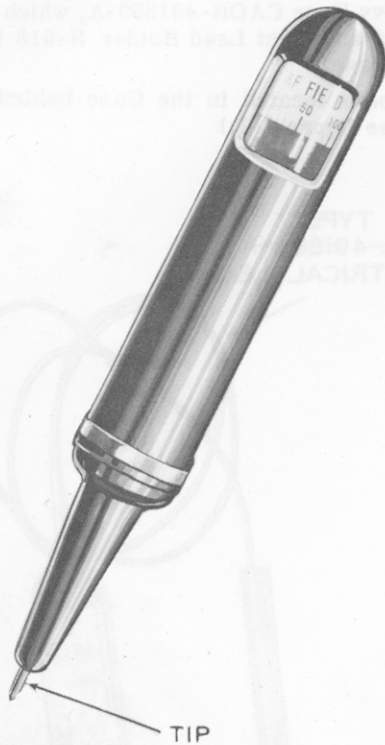

Figure 1-6. RF Indicator-Probe ID-263/U, Identification
f. RF INDICATOR-PROBE ID-263/U. (See figure 1-6.) - This unit contains a meter movement and a crystal rectifier circuit housed in a plastic body. It is used to indicate the presence of electric RF fields of relatively large magnitude. Its sensitivity is of the order of 25% of full-scale when one volt of RF voltage is applied to the tip of the Probe. The hand capacitance of the operator supplies the return RF connection.